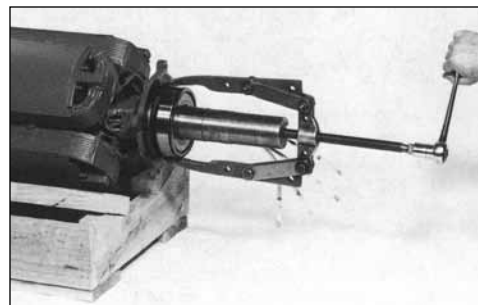

Figure 6-42
- a. If the bearing is to be replaced, remove bearing cartridge with a suitable puller (Figure 6-42).